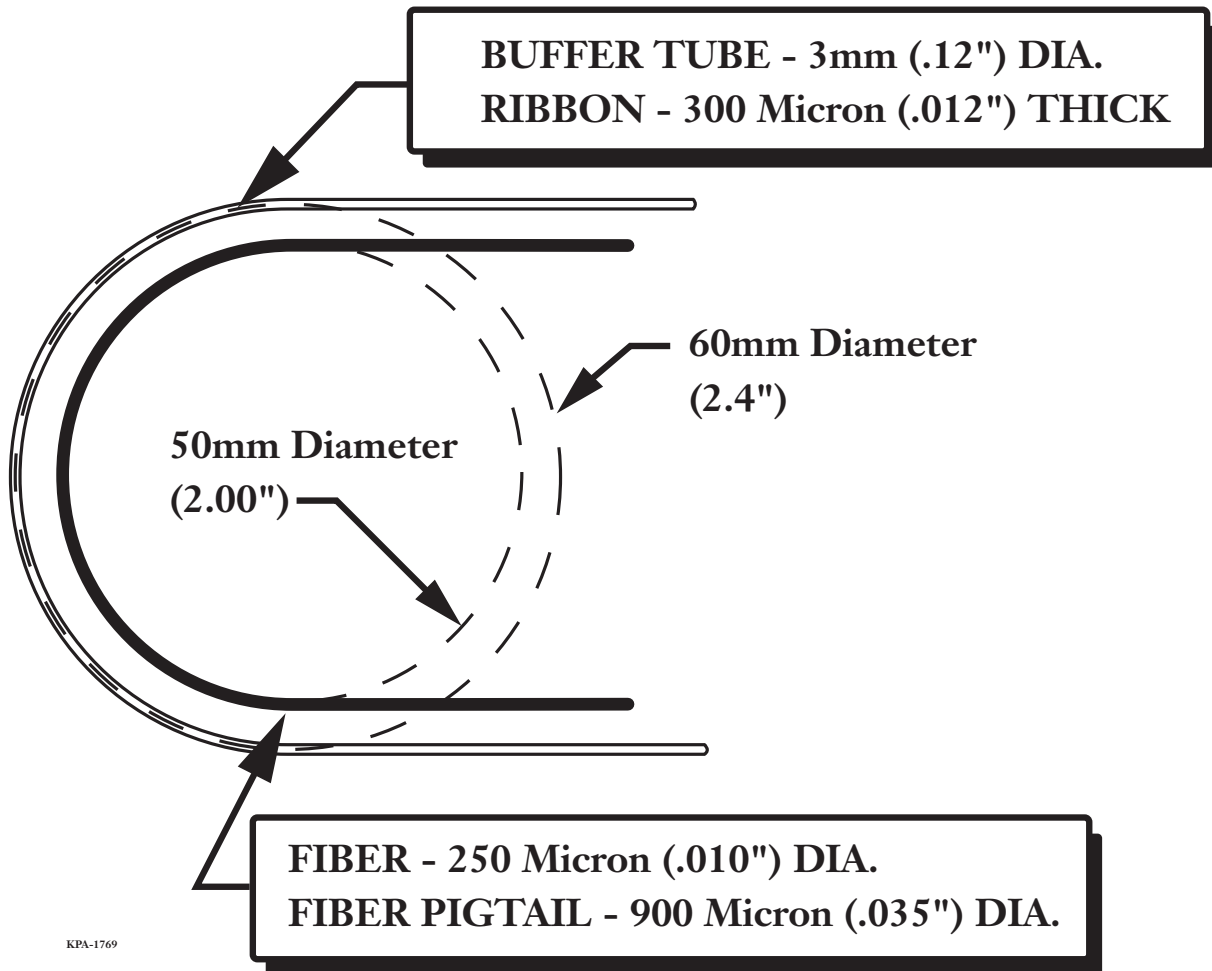

Figure 22
The most important step in handling and installing any type of optical fiber is not to bend the fiber too tightly. Bending the fiber too tightly can cause attenuation (loss of light) or breakage. Use the full-size diagram below for the minimum bend diameter. Figure 22 is a full-size template of the minimum bend radii for various fiber types.
**IMPORTANT:** Never bend any fiber, ribbon, pigtail, or buffer tube tighter than shown in Figure 22. Tighter bends will cause attenuation (loss of signal) and may break fibers.